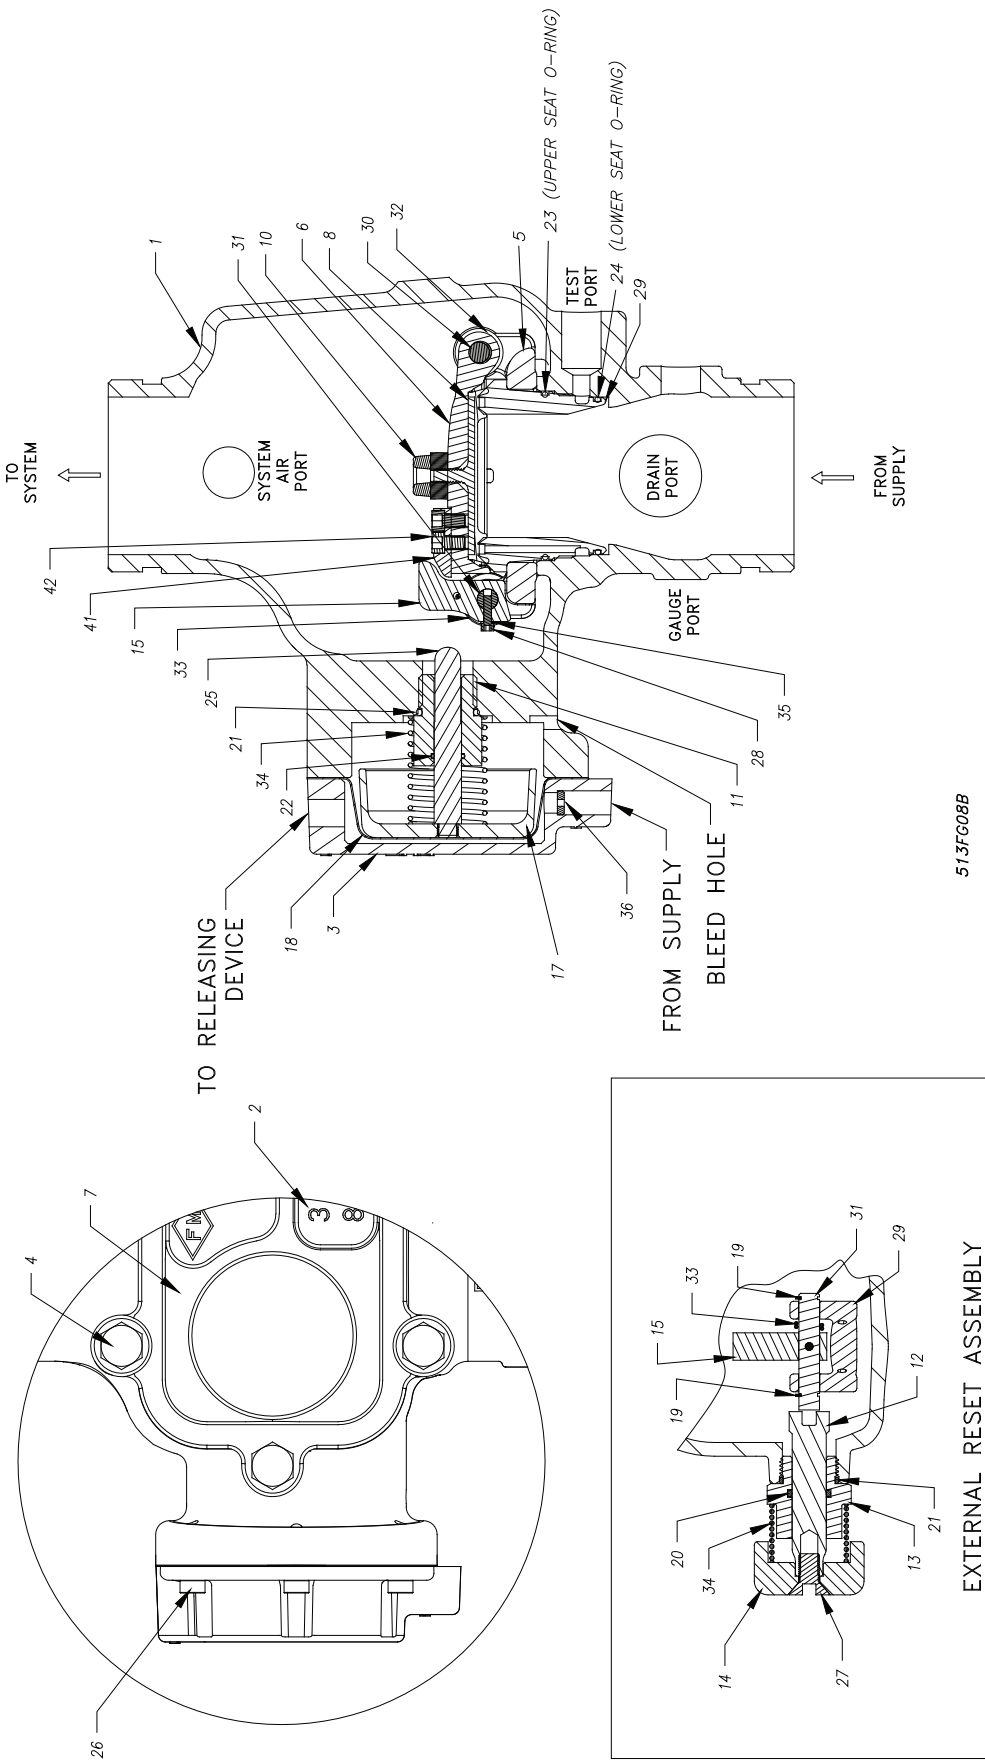
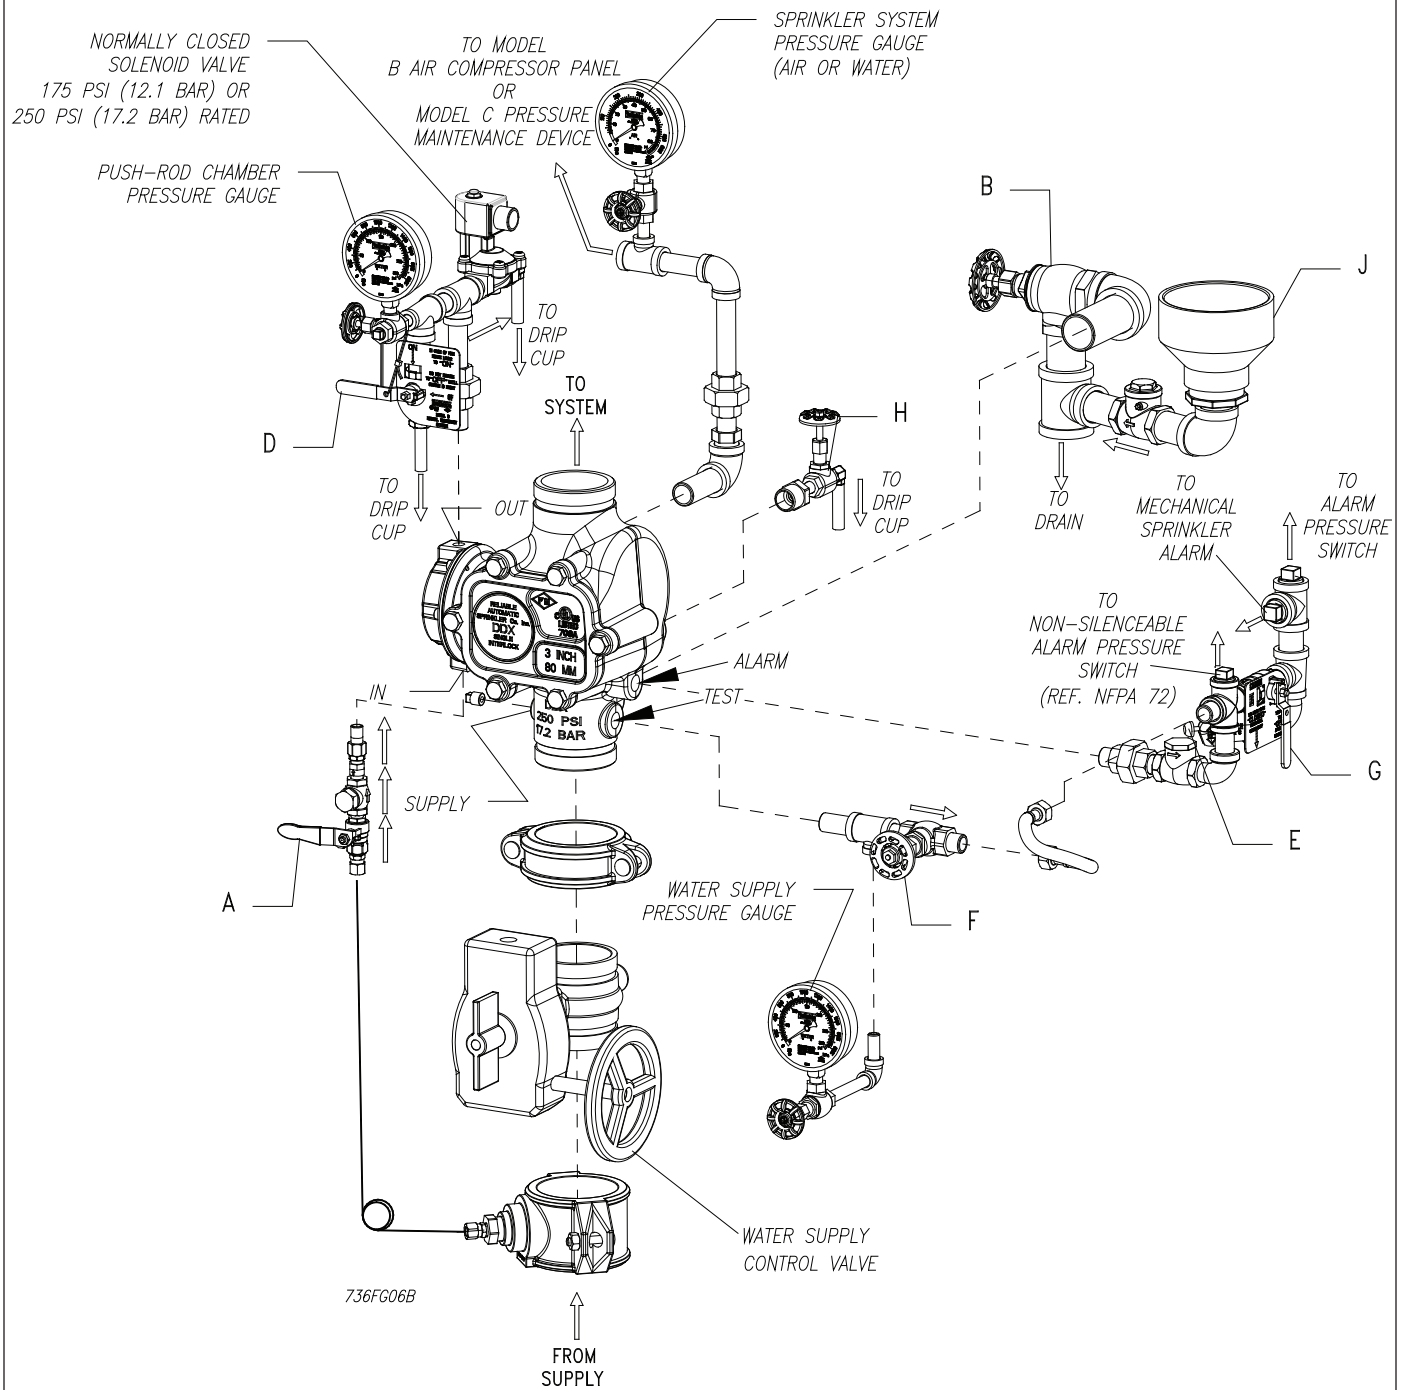

Fig.5
Fig. 6
- 1. Close the main valve controlling water supply (Fig. 6) to the Deluge Valve and close off the air supply to the sprinkler system.
- 2. Close the pushrod chamber supply valve, valve A (Fig. 6).
- 3. Open the main drain valve, valve B (Fig. 6), and drain system.
- 4. Open all drain valves and vents at low points throughout the system, closing them when flow of water has stopped. Open valve D (Fig. 6).
- 5. With valve G (Fig. 6) open, push in the plunger of ball drip valve, valve E (Fig. 6), to force the ball from its seat, and drain any water in the alarm line.
6. With the Model B Manual Emergency Station, valve D (Fig. 6), open, push in and rotate the Deluge Valve's external reset knob (#14, Fig. 5) clockwise until you hear a distinct clicking noise, indicating that the clapper has closed. **Note:** The reset knob can be rotated only after pressure in the pushrod chamber is reduced to atmospheric conditions (0 psig).
8. Open valve A (Fig. 6) and allow water to fill the Deluge Valve's pushrod chamber. Close valve D (Fig. 6).
10. Close valve G (Fig. 6). Open the valve to restore air pressure in the sprinkler system.
11. Open valve G (Fig. 6). Open slightly the main valve controlling water supply (Fig. 6) to the Model DDX Deluge Valve, closing drain valve B (Fig. 6) when water flows. Observe if water leaks through the ball drip valve, valve E (Fig. 6), into the drip cup, J (Fig. 6). If no leak occurs, the Deluge Valve's clapper is sealed. Open slowly, and verify that the main valve controlling water supply is fully opened and properly monitored.
12. Verify that valve A (Fig. 6) and valve G (Fig. 6) are open.
13. Secure the handle of the Model B Manual Emergency Station, valve D (Fig. 6), in the OFF position with a nylon tie (#56, Fig. 2).
6. Releasing device — check outlet of the releasing device (i.e., solenoid valve or the Model B Manual Emergency Station, valve D (Fig. 6)) for leakage. Also verify that tubing drain lines from releasing devices are not pinched or crushed which could prevent proper releasing of the Deluge Valve.
7. Testing alarms — make sure valve G (Fig. 6) is open. Open valve F (Fig. 6) permitting water from the supply to flow to the electric sprinkler alarm switch and to the mechanical sprinkler alarm (water motor). After testing, close this valve securely. Push in on the plunger of ball drip valve E (Fig. 6) until all of the water has drained from the alarm line.
8. Operational test — Open the Model B Manual Emergency Station, valve D (Fig. 6), or operate by electrical actuation (refer to Bulletin 700, "Special Hazards & Special Systems" for details). **Note:** An operational test will cause the Deluge Valve to open and flow water into the sprinkler system.
9. Secure Model B Manual Emergency Station, valve D (Fig. 6), in the OFF position with a nylon tie (#55, Fig. 2) after the Deluge Valve is reset.
Refer to Fig. 6
2. Alarm line — be sure that valve G (Fig. 6) is opened and remains in this position.
3. Other trimming valves — check that valve A (Fig. 6) is open as well as all of the pressure gauge's ¼" 3-way valves. Valves D, F, and H (Fig. 6) should be closed.
4. Ball drip valve E (Fig. 6) — make sure valve G (Fig. 6) is open. Push in on the plunger to be sure the ball check is off its seat. If no water appears, the Deluge Valve's water seat is tight. Inspect the bleed hole (see Fig. 5) on the underside of the push rod chamber for leakage.
2. Leakage out of the ball drip valve E (Fig. 6).
This condition can be caused by leakage past the system side of the Model DDX Deluge Valve's seal faceplate subassembly (#8, Fig. 5). Be sure that this surface is free of any type of debris. To eliminate leakage due to a water column, refer to the section in this bulletin marked "Draining Excess/Condensate Water From System". If the problem continues proceed to the following section.
b. Leakage, air or water from the ball drip valve, E (Fig. 6):
If system air is leaking out the ball drip valve, the problem is either damage to the airside of the Model DDX Deluge Valve's seal faceplate subassembly (#8, Fig. 5), seat (#29, Fig. 5), or the upper seat O-ring (#23, Fig. 5). If supply water is leaking out the ball drip valve, the problem could be caused by damage to the Model DDX Deluge Valve's seal faceplate sub-assembly (#8, Fig. 5), seat (#29, Fig. 5), or lower seat O-ring (#24, Fig. 5). The following section provides instructions to correct both conditions:
A. Shut down the valve controlling the water supply to the Deluge Valve and open the 1-1/4" main drain valve B (Fig. 6). Open the water column drain valve H (Fig. 6). Close the push rod chamber supply valve A (Fig. 6) and open the Model B Manual Emergency Station D (Fig. 6).
B. Remove the Deluge Valve's front (handhold) cover (#7, Fig. 5) and inspect the seat (#29, Fig. 5), clapper (#6, Fig. 5), and seal faceplate subassembly (#8, Fig. 5) for damage.
If inspection indicates damage to the seal faceplate sub-assembly (#8, Fig. 5), replace as follows:
Remove the bump stop nut subassembly (#10, Fig. 5) and remove the seal assembly (#8, Fig. 5). Install a new seal assembly (#8, Fig. 5) and thread the bump stop nut (#10, Fig. 5) onto the threaded stud of the seal sub-assembly (#8, Fig. 5) and tighten finger tight plus 1/4 to 1/2 turn.
At the rear of the valve, disconnect the water column drain trim section starting with the elbow connector (#16, Fig. 2). Then remove the 1/4" angle valve (#61, Fig. 2), followed by the 3/4" x 1/4" reducing bushing (#7, Fig. 2). Remove the retaining ring (handhold cover side) from the clapper hinge pin (#30, Fig. 5) and push this pin through the water column drain line and remove the clapper subassembly. Replace the seal sub-assembly as described previously. Inspect the clapper (#6, Fig. 5) visually before reinstalling. Reinstall in the reverse order making sure the clapper spacers are in their proper position. If the seat (#29, Fig. 5) is damaged or it is suspected that the leakage is through the lower O-ring (#24, Fig. 5), the seat-clapper subassembly is easily removed as a unit as follows:
Using Reliable P/N 6881603000 Seat Wrench, remove the seat by unscrewing. This will loosen the seat-clapper-mounting ring subassembly. Reach into the valve and grasp the seat-clapper subassembly and remove it from the valve. Visually examine all components of the seat-clapper-mounting ring sub-assembly replacing any component that appears damaged. New O-rings (#23 & #24, Fig. 5) should always be used for reassembly.
Clean the bore of the valve body. Lubricate the bore with O-ring grease. Lubricate and install the O-rings (#23 & #24, Fig. 5) onto the seat. Insert the seat-clapper-mounting ring sub-assembly into the handhold opening of the Deluge Valve. Align the mounting ring so that the Lever (#15, Fig. 5) is near the pushrod (#25, Fig. 5) and the mounting ring (#5, Fig. 5) "ears" are between the tabs of the valve body (#1, Fig. 5). Start to tread the seat (#29, Fig. 5) into the body by hand, then tighten until the seat (#29, Fig. 5) with seat wrench 6881603000 until it bottoms out on the mounting ring (#5, Fig. 5). Verify that the seat-clapper-mounting ring subassembly is in the fully down position between the tabs of the body, and check to see that the lever (#15, Fig. 5) lines up with the push rod (#25, Fig. 5). Loosen and reassemble if necessary. Reassemble the hand hold cover (#7, Fig. 5) and set up the Model DDX Deluge Valve as per the section "Resetting Model DDX Deluge Valve Systems."